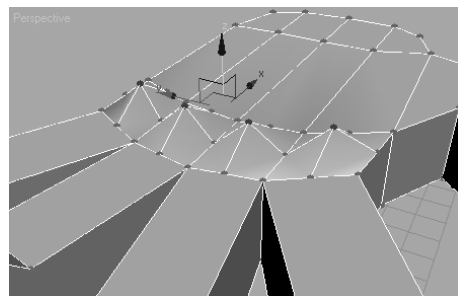
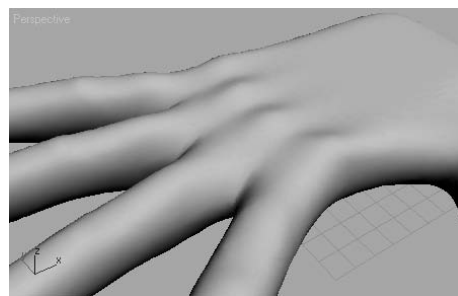

Figure 4.92
Figure 4.93
- Switch to Vertex mode and select the vertices in the center of the subdivided polys. Right-click to access the shortcut menu and choose Move. Move the vertices up away from the hand along the Z-axis, as shown in Figure 4.92. Check the Use NURMS Subdivision box to see the smoothing of the hand with the raised knuckles (as shown in Figure 4.93). You may want to go back to Vertex mode while in NURMS to use the SubDs cage to refine the changes. Continue to edit until you are satisfied with the look. Don't forget to save another iteration.